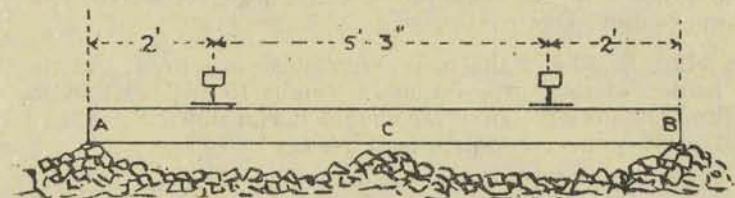

Fig. 8.
8. The railway sleeper, Fig. 8, is shown supported at the ends A and B. Find the greatest bending moment on the sleeper when the load on each rail is 3 tons.